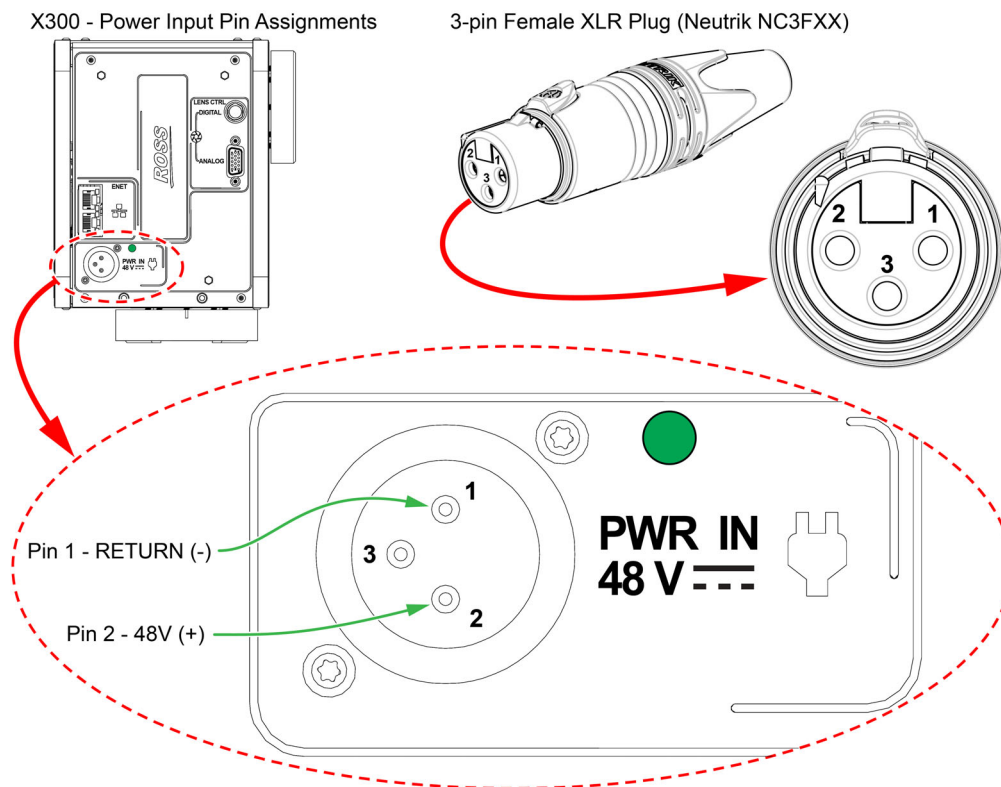

Figure 85 - Power Input Pin Assignments (X300 shown; X350 and X650 power inputs are identical)
- › Pin assignments are as follows: Pin 1 - RETURN (-); Pin 2 - 48 V (+); Pin 3 - not connected. See **Figure 85**.